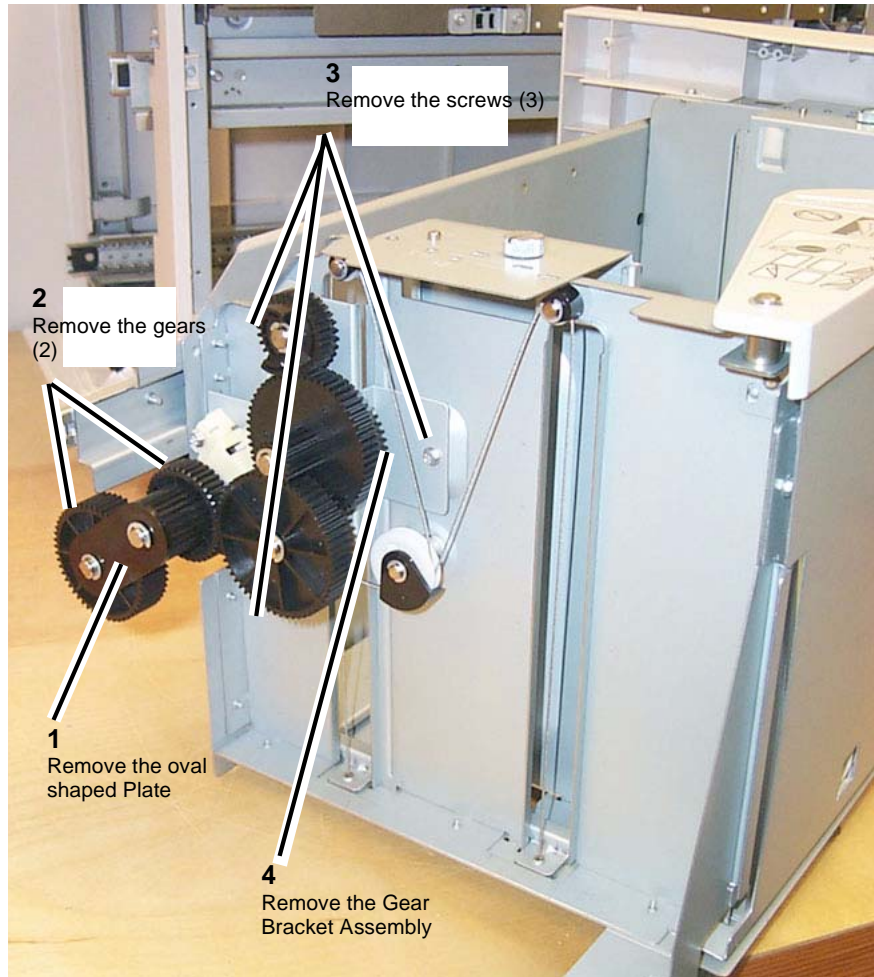

Figure 1 Gear Bracket Assembly
2. Remove the Gear Bracket Assembly (Figure 1).